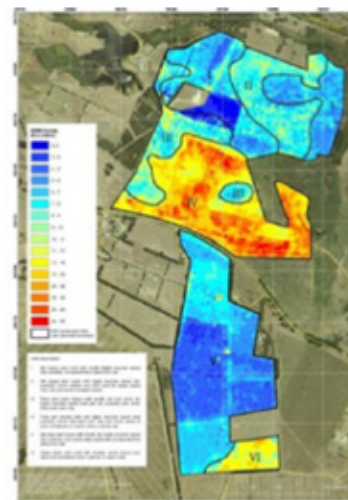

Figure 2 - Broad soil landscape units based on areas mapped at Tusmore and Whispering Pines based on EM38 and field validation
**EM38** - provided a good relationship with major soil changes and some identification of minor changes in quality of sandier soils. This is shown in Figure 2. Soil types and distribution were reflected in EM reflectance as per the table below.